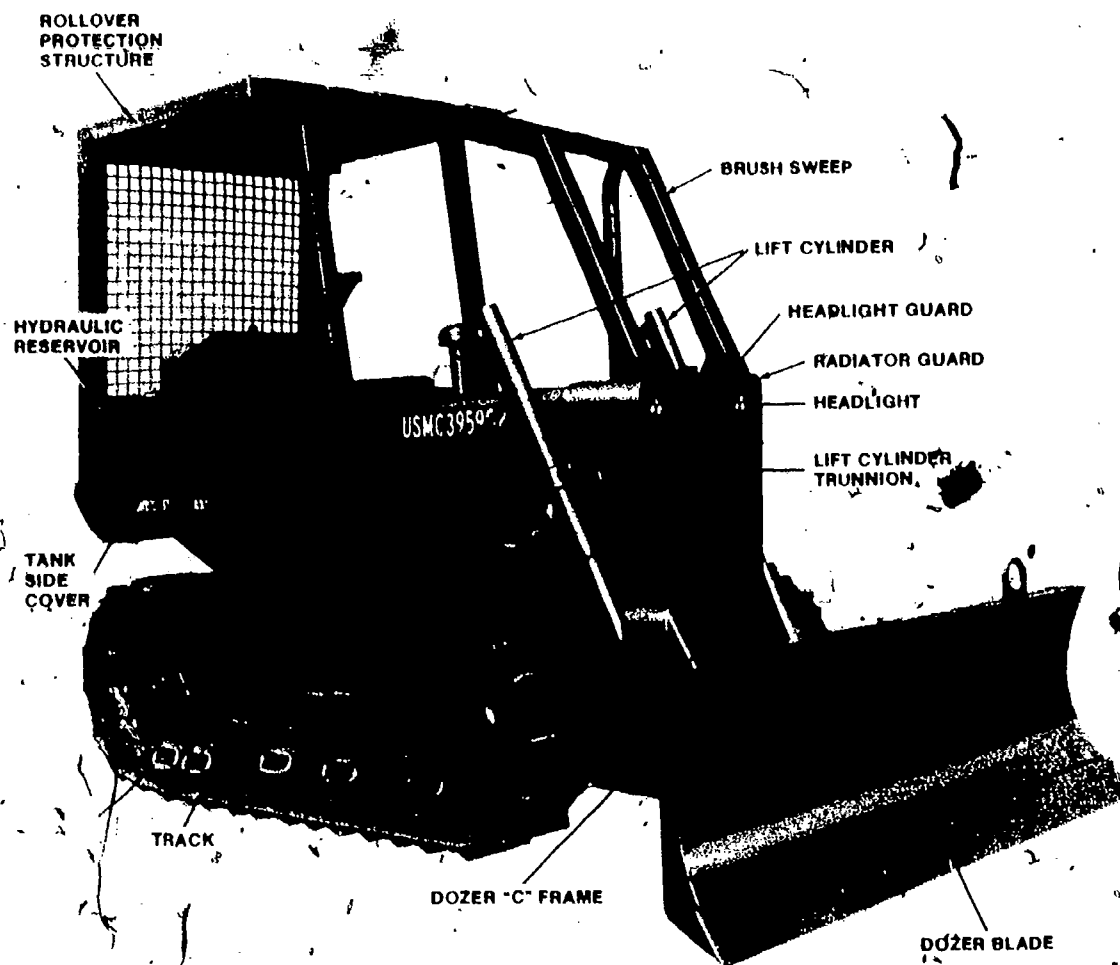

Fig 1-5. Case MC 450 tractor.
- (3) Case MC 450 tractor (fig 1-5). The Case MC 450 tractor is a full-tracked type equipped with a hydraulically operated angle and tilt blade. It is powered by a 4-cylinder, 4-stroke-cycle diesel engine. The tractor may be used as a dozer, power angling dozer, or power tilt dozer. The tractor has a fording capability of 36". Four lifting eyes and ten tiedown loops are welded to the track frame.